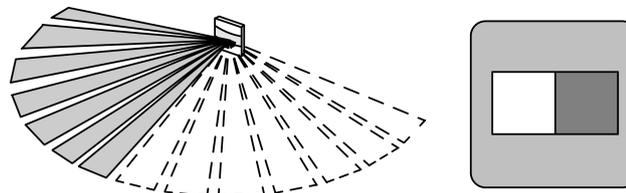

Figure 12: Limiting the detection field
The detection field can be limited as required (Figure 12).
- Mounting the cover (Figure 12). Detection angle approx. 90°.